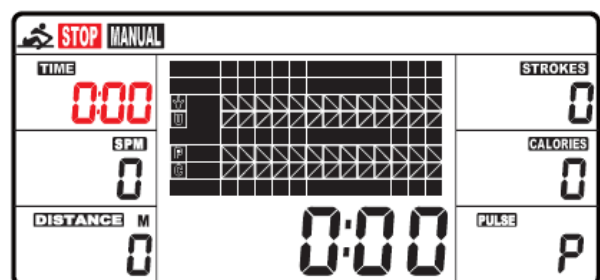

Fig. 4
1. **MANUAL (Fig.4):** There are 2 options in MANUAL mode.